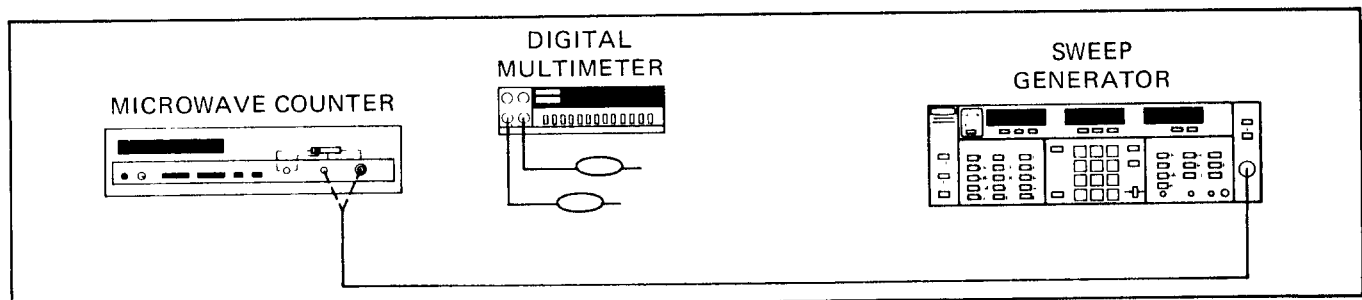

Figure 5-23. Test Equipment Setup for Frequency Calibration
1. Set up test equipment as shown in Figure 5-23, and turn the equipment on.